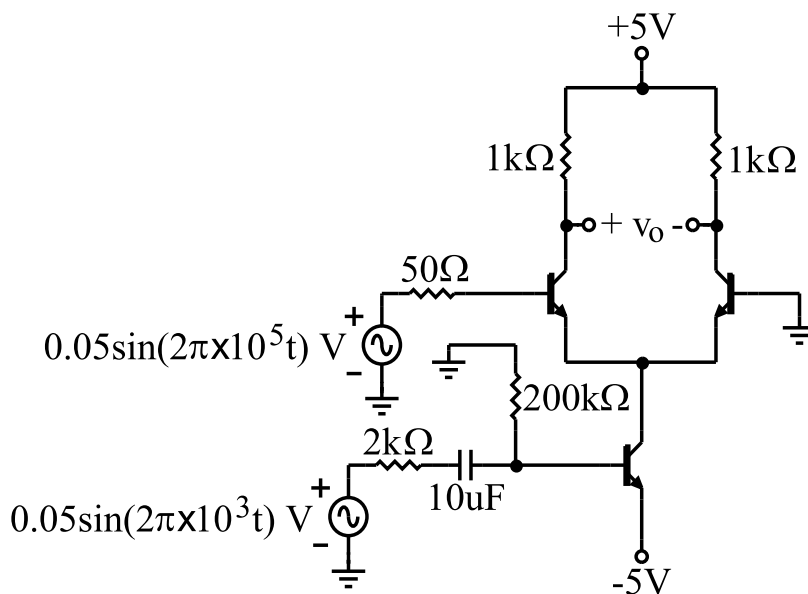

Figure 3.3. The AM Modulator.
The circuit in figure 3.3 shows an AM modulator. “Wire-up” this circuit using your chosen simulation package using 2N3904 transistors (though you only need to look at the output over a few milli-seconds you should set the simulation times to at least 0.5 seconds for transients to subside).
- A. Apply a 50mVp, 1kHz sine wave to the input of the modulator, as shown in figure 3.3, and observe the differential output.